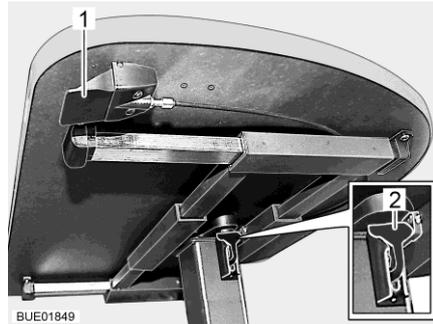

Fig. 81 Lift-off table with release button
- Pull or press down the catch lever (Fig. 81,2).
- Press the catch lever (Fig. 81,2) upwards.
- Press the release button (Fig. 81,1) and hold it down. The table top moves automatically upwards to the limit stop.
- Release the release button (Fig. 81,1). The table top remains in the desired position.
- Press the release button (Fig. 81,1) and hold it down.
- Release the release button (Fig. 81,1). The table top remains in the lowest position.